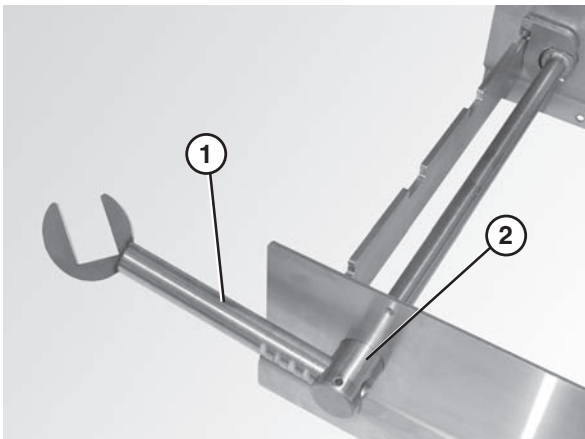

Figure 24
- Attach nose bar idler shaft hands (**Figure 24, item 1**) to the tip up shaft (**Figure 24, item 2**).